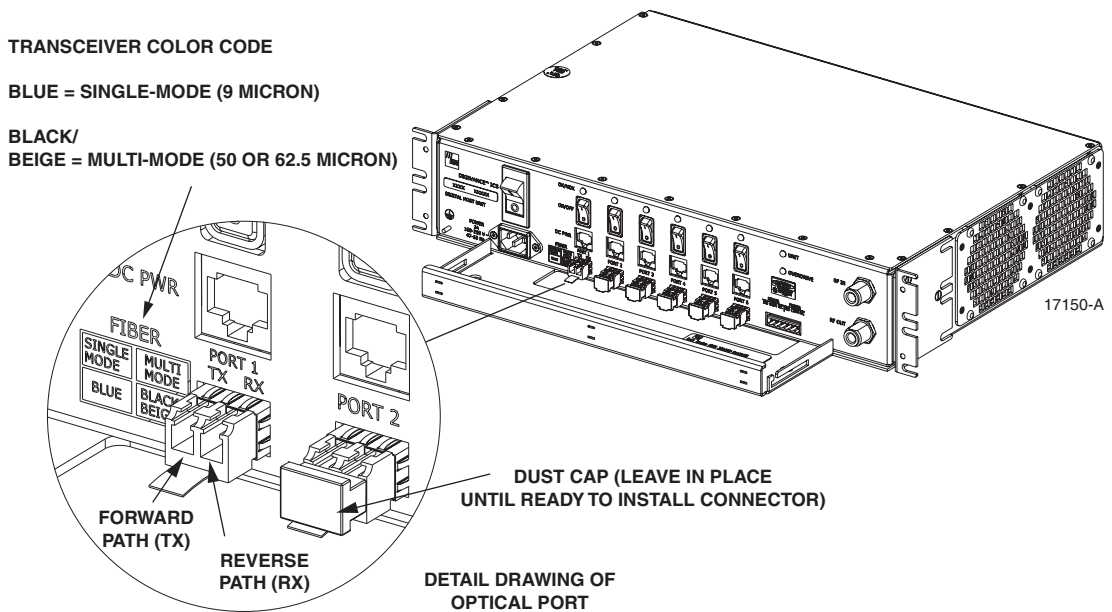

Figure 20. Optical Transceiver Designations
- ◆ **Note:** When viewing any **Port 1-6** optical transceiver from the front, the forward path port is on the left and the reverse path port is on the right as shown in Figure 20. In addition, single-mode transceivers are colored blue and multi-mode transceivers are colored black or beige. Both single- and multi-mode transceivers may be mounted on the same DHU.